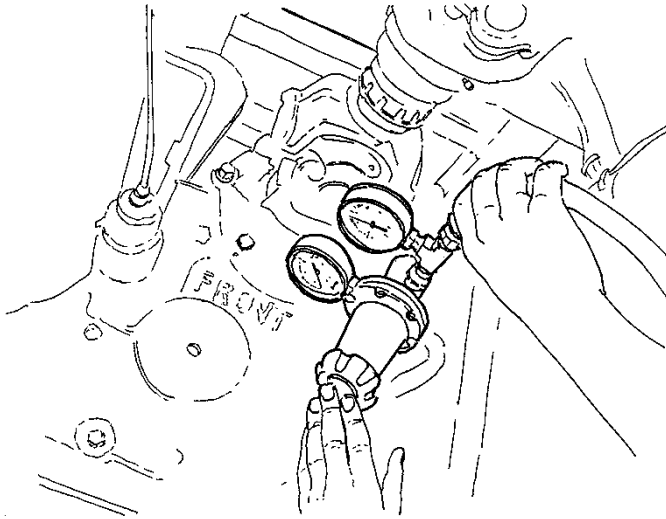

Figure 2 Connect Air Supply
3. Connect a 10 PSI maximum regulated air supply to the air fitting (Figure 2) to pressurize the transfer case.